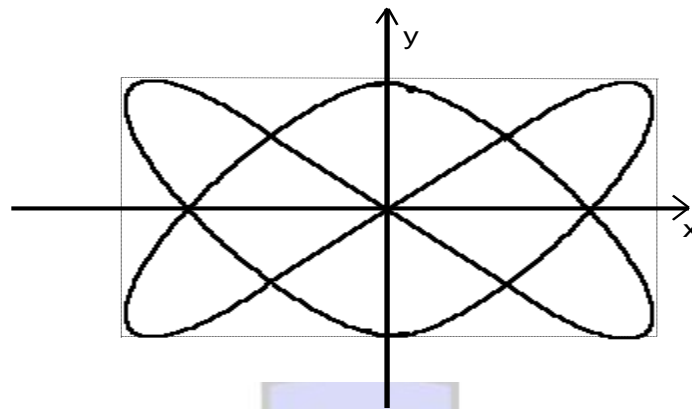

Figure.5
2. Figure 5 shows a Lissajous pattern observed on the CRT screen. Determine the frequency relationship between the signals applied to the X and Y inputs of the scope.